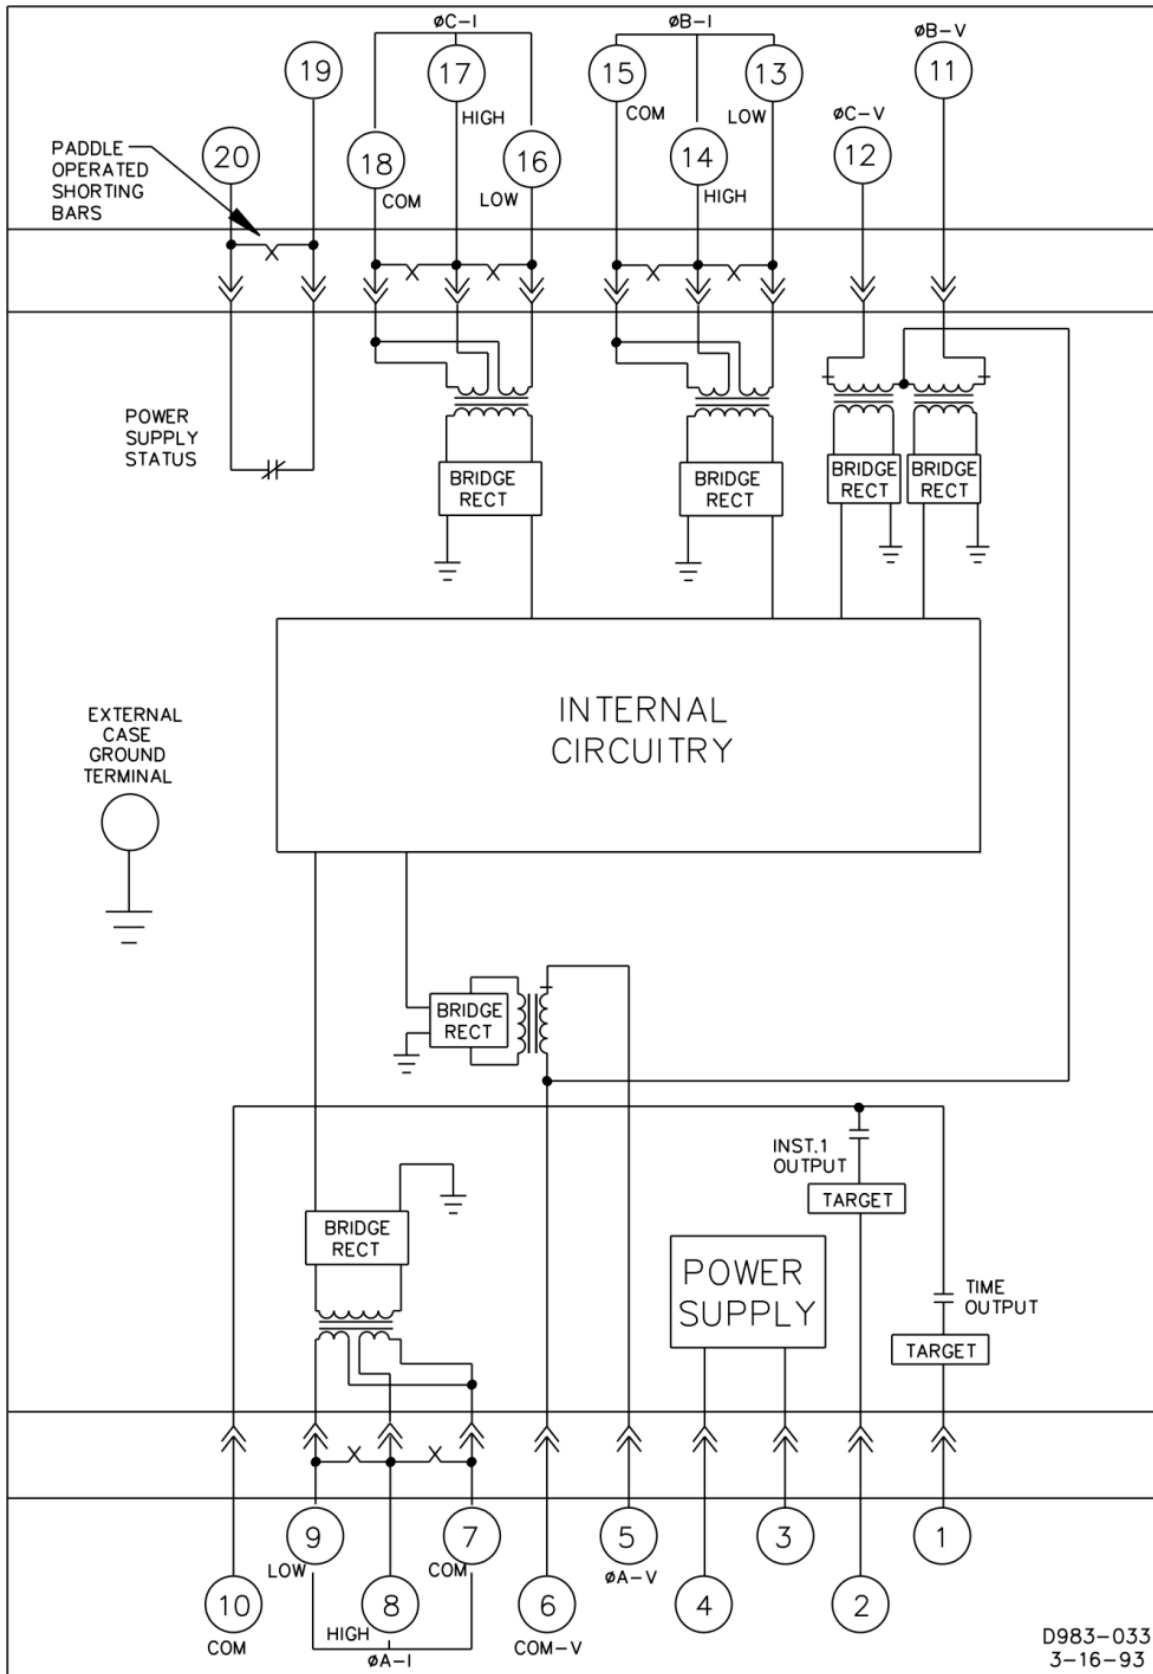

Figure 4-23. Typical Internal Diagram, Sensing Input Type R or S
- Figure 4-23: Typical Internal Diagram, Sensing Input Type R or S